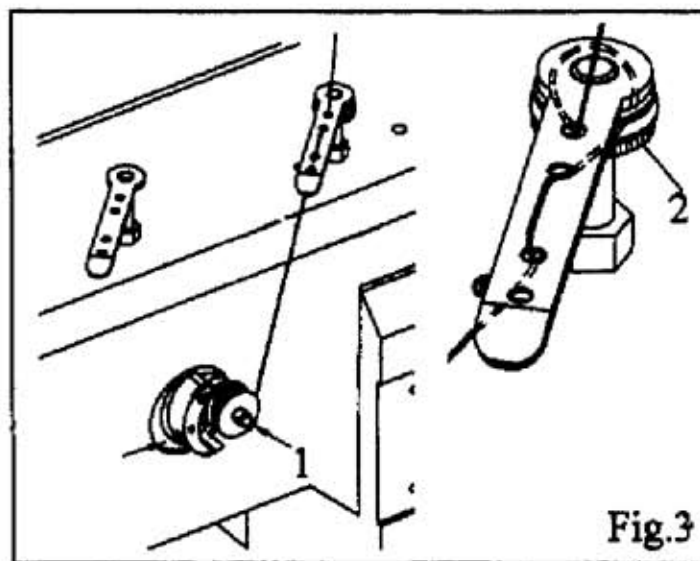

Fig.3
(3) Winding the lower thread, regulating the tension of the thread (Fig.3)
- 1) Put an empty bobbin onto the bobbin shaft 1 and thread the thread according to Fig 3